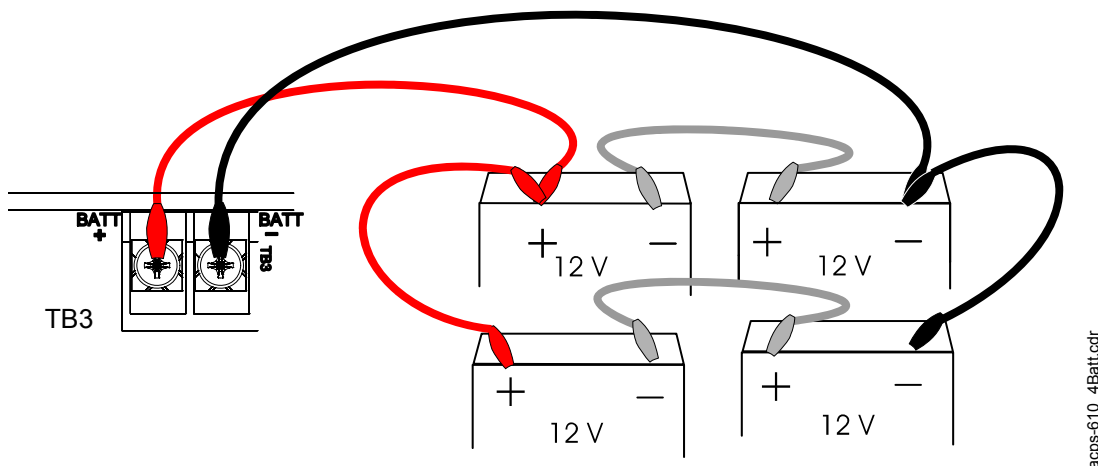

Figure 2.15 Connecting Four Batteries to the Power Supply
4. **Only after initial system power-up**, connect the two pairs of batteries. Use two battery interconnect cables to tie each unoccupied negative (-) terminal to an unoccupied positive (+) terminal, as shown in Figure 2.15.